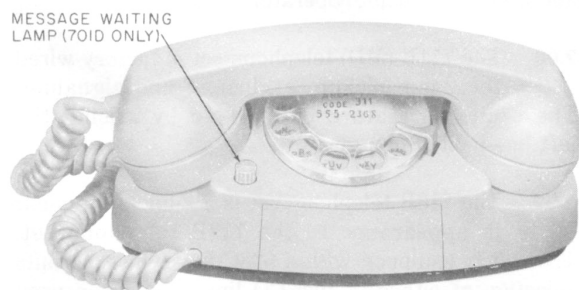

Fig. 3—701D (MD) Telephone Set
2.05 The 701D (MD) telephone set is equipped with a message waiting lamp (Fig. 3) and is intended for use with PBX's which provide this feature.